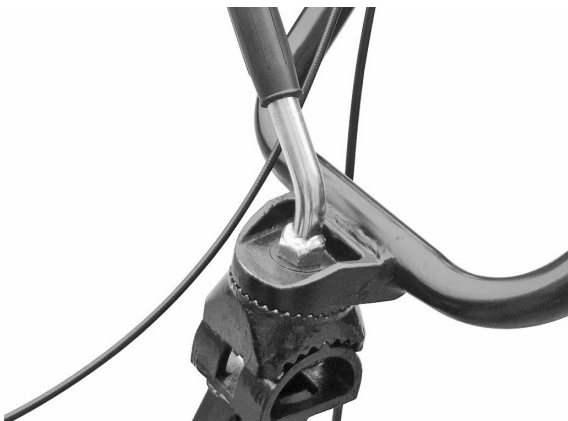

Figure 5
- Loosen the lifting handle and select the hole in an appropriate position, then adjust the handle's cross bar to as high as user's waist, then turn the lifting handle to tighten it (See Fig. 5).